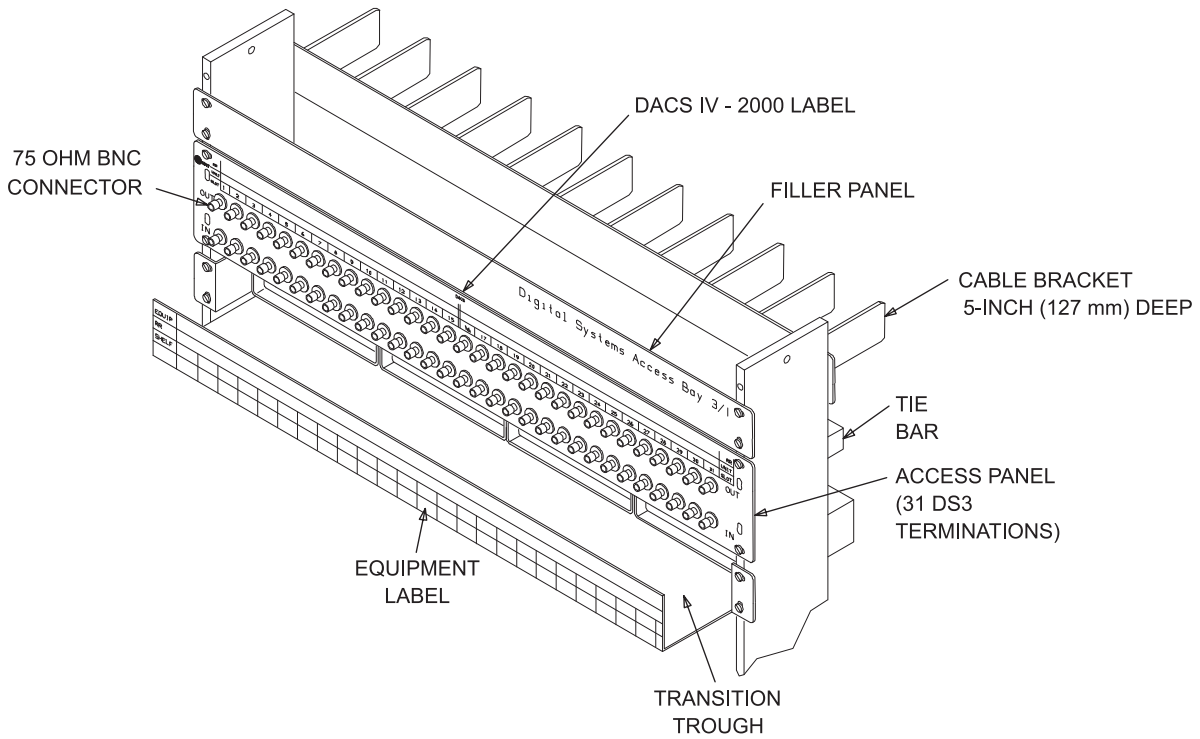

Figure 1. DSAB3/1 Assembly Components (Group 1)
* Not shown in Figure 1
Refer to Figure 1.